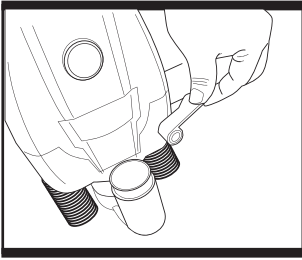

Fig. 5
4. ADJUSTING DEPTH OF CUT (See Fig. 5 & Fig. 6)